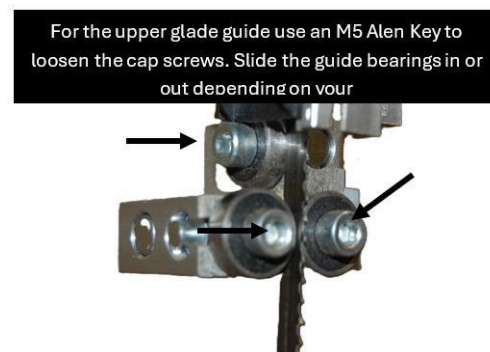

Figure 9: Adjusting the upper blade guide.
To adjust the upper blade guide, see figure 9.
Selecting the correct blade size for a woodworking band saw is critical to achieving optimal performance and precision see (Fig. 9). The size of the blade affects the type of cuts you can make, particularly when cutting curves. Wider blades provide stability for straight cuts but are limited when it comes to making tight radius curve cuts, where a narrower blade is more suitable. Additionally, the number of teeth per inch (TPI) plays a crucial role in determining how well the blade can handle different workpiece thicknesses. Blades with a higher TPI are ideal for thinner materials, as they produce smoother cuts, while lower TPI blades are better suited to cut thicker workpieces, allowing for faster material removal without clogging the teeth. Ensuring the right balance between blade size and TPI based on the
- 8- **Adjust the Blade Guides** readjust the blade guides, making sure that they are supporting the blade. See figures 9 and 11.